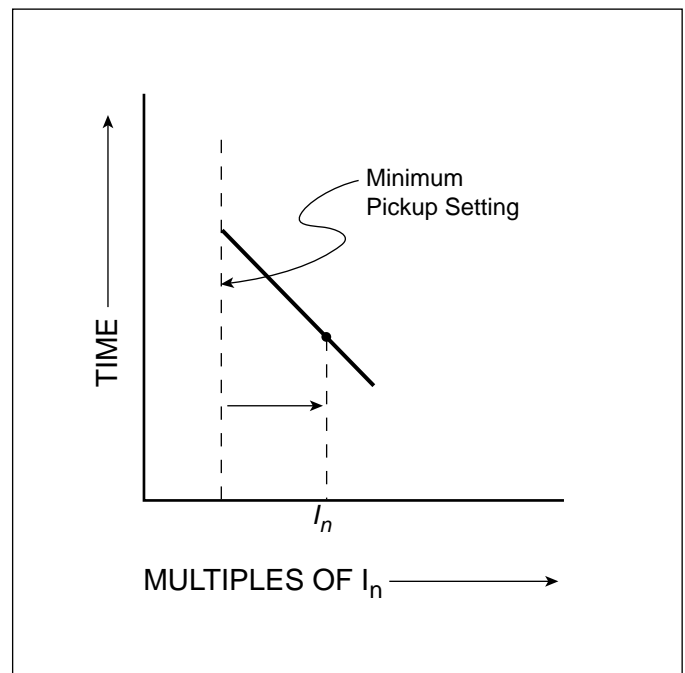

Figure 3-4 Typical Inverse Time Overcurrent Pickup Horizontal Movement
a) Adjustability: The adjustability of the relay permits movement of its characteristic curve or parts of the curve. This movement can be done in both a horizontal and vertical direction on the time current grid. The actual shape of the curve can be changed along with the curve movement. This adjustability permits distinct curves to be established that will better match the electrical protection to the application need (Figures 3-4 through 3-9) Notice that there is no horizontal movement of the ANSI and IEC curve shapes. Only the point at which the relay starts to time out moves along the curve shape.
The pickup setting establishes the current level pickup at which the relay's inverse time overcurrent tripping function begins timing. If, after a predetermined amount of time, the current condition that started the timing process still exists, the relay's trip relay is energized. Pickup settings can be adjusted from 0.20 to 2.20 times I_n . Refer to Tables 2.2 and 2.3 for a complete set of available settings. Figure 3-4 graphically illustrates how the Inverse Time Overcurrent Pickup portion of the overall curve can be moved horizontally on the time current grid by means of the pick-up settings. The Inverse Time Overcurrent Pickup is represented by the dotted lines, while the rest of the curve is represented by a solid line.